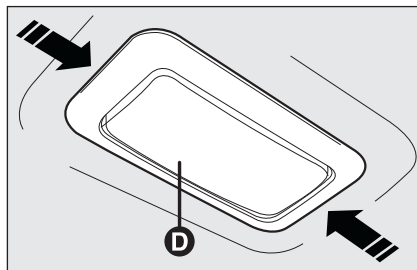
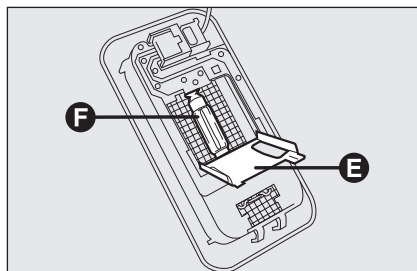

fig. 30
fig. 31
- ☐ manipulate the points shown by the arrows and remove the light **D-fig. 30**;
- ☐ open the protective flap **E-fig. 31**;
- ☐ close the protective flap **E-fig. 31** and secure light **D-fig. 30** into its housing making sure that it locks into place.